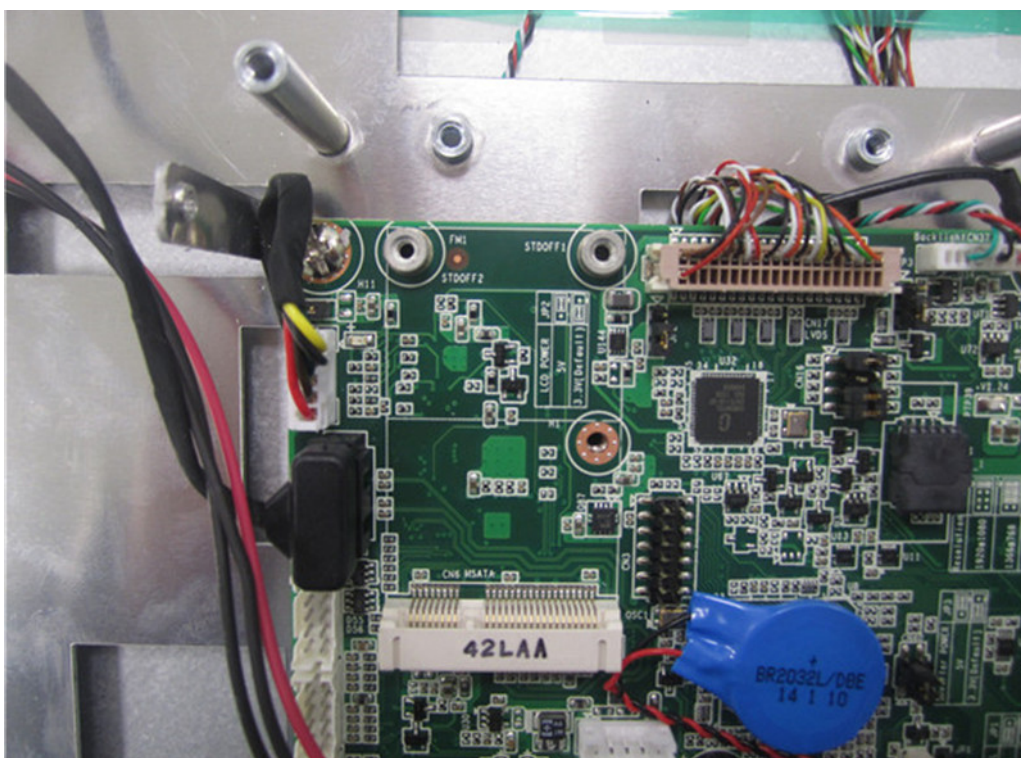

Figure 2.14
1. Follow Steps 1 and 2 of Section 2.4 to remove the rear cover and VESA mount plate. The disassembled machine should appear as shown in Fig. 2.14.